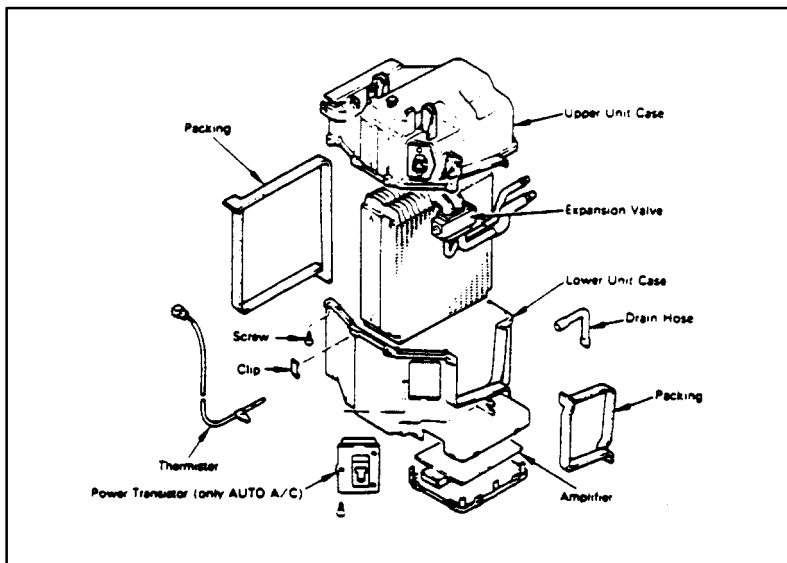
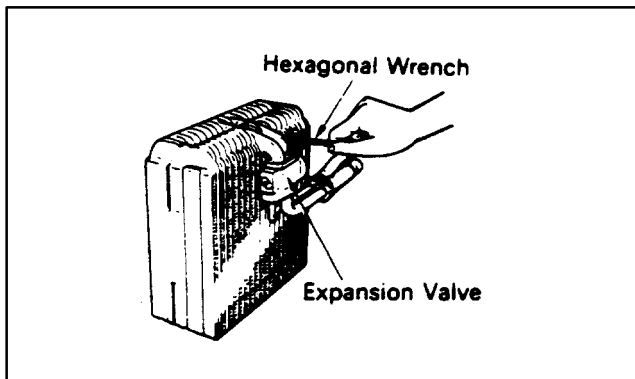

Figure 20
Figure 21
(8) Remove lower and upper unit cases. **(Figure 20)**
(9) Remove expansion valve, and liquid and suction tube.
- (ii) Remove the expansion valve from the evaporator by removing the two bolts using a hexagon wrench. **(Figure 21)**